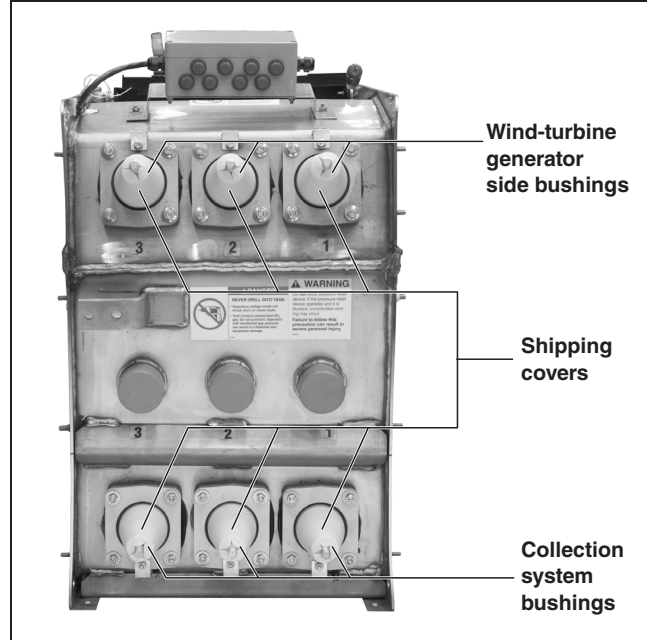

Figure 9. Removing the shipping covers.
**STEP 1.** Remove the shipping covers from the bushings and bushing wells. See Figure 9.